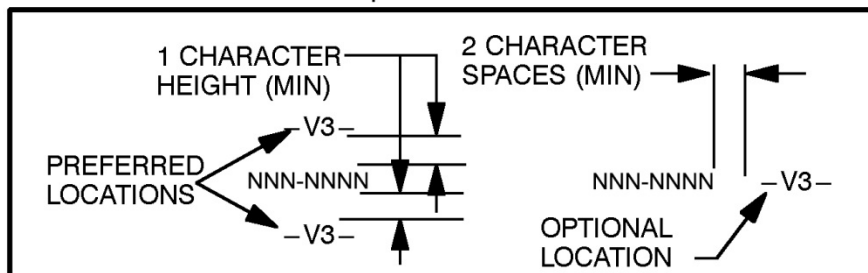

Figure 7 - Version and Change Number Locations
6.2 When the note “**PART NO., VERSION, AND CHG () MIN SIZE ()**” is designated on the drawing, the version and change number shall be positioned on the part in one of the locations as shown in Figure 7. The version identification shall be placed directly in front of the change number. A dash shall precede and follow the version and change number.